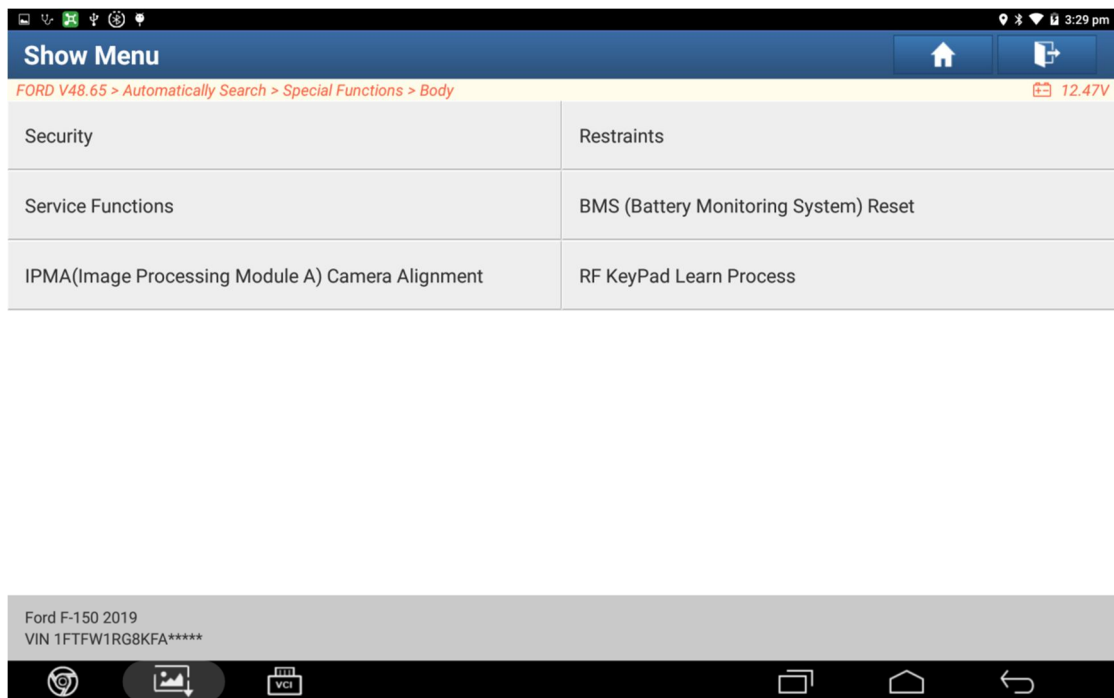

Figure 6
5. Select [IPMA (Image Processing Module A) Camera Alignment] (Figure 6).